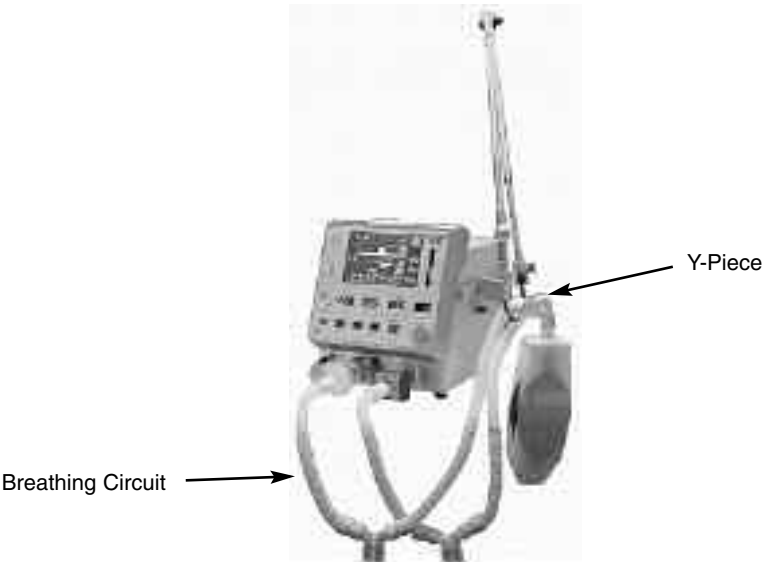

Figure 2-14 Patient Circuit Setup
- 3 Connect appropriate patient circuit to the e360 ventilator as shown in Figure 2-14. Occlude the patient circuit using a CAP. A filter and test lung are not required for this instruction.